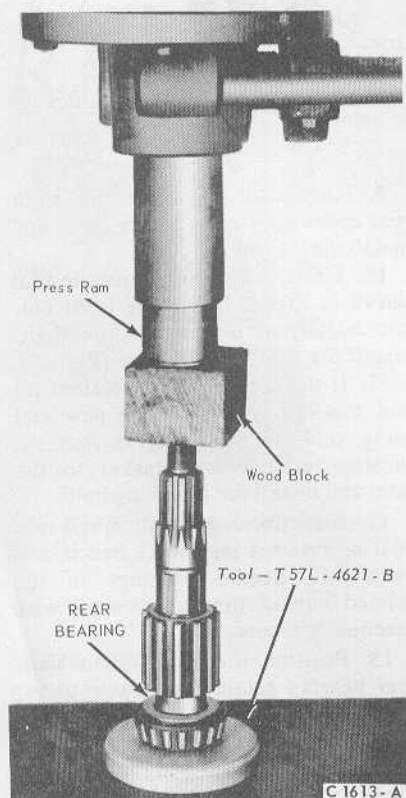

FIG. 15—Installing Front Output Shaft Rear Bearing
2. Install the bearing as shown in Fig. 15.